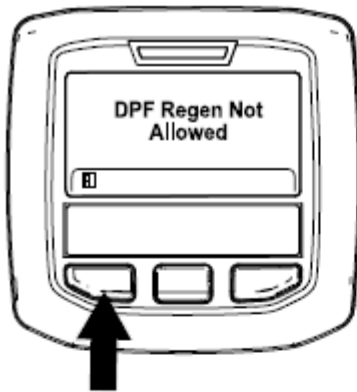

Figure 12
- If the regeneration process is not allowed by the engine computer, the "DPF Regen Not Allowed" message displays in the InfoCenter (Figure 12). Press the left button to exit to the home screen